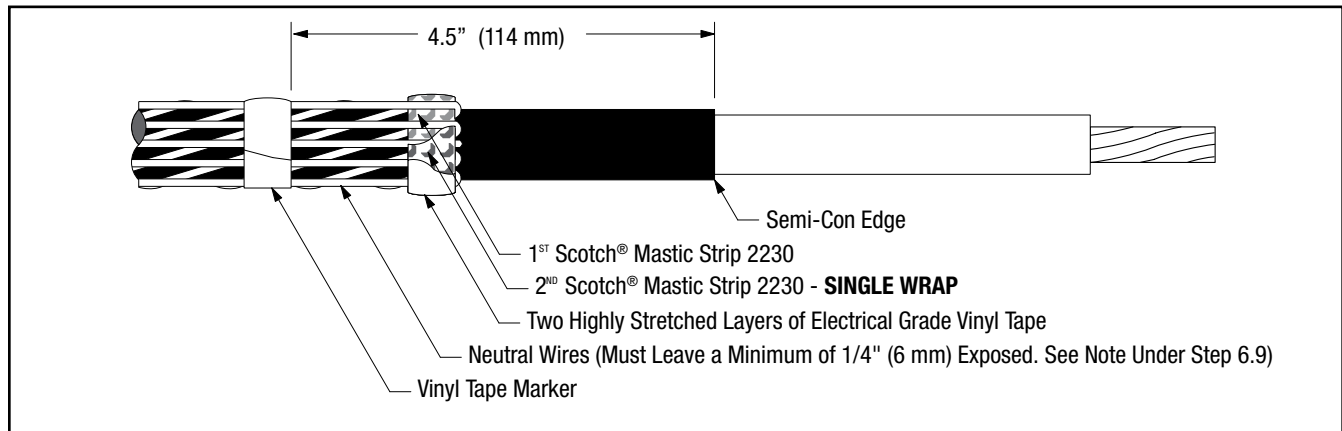

Figure 8
- 6.7 Bend neutral wires back over applied sealing mastic and secure to cable **4 1/2" (114 mm)**, below cable semi-con edge using vinyl tape (see NOTE and Figure 8).
- 6.8 Select second Scotch® Mastic Strip 2230 from kit and remove white release liners. Apply a second **SINGLE WRAP** of mastic over the neutral wires and previously applied mastic (Figure 8). Cut off excess.
- 6.9 Compress neutral wires into mastic by over-wrapping seal strips with two highly stretched layers of electrical grade vinyl tape (Figure 8). **Be sure to cover all exposed mastic.**